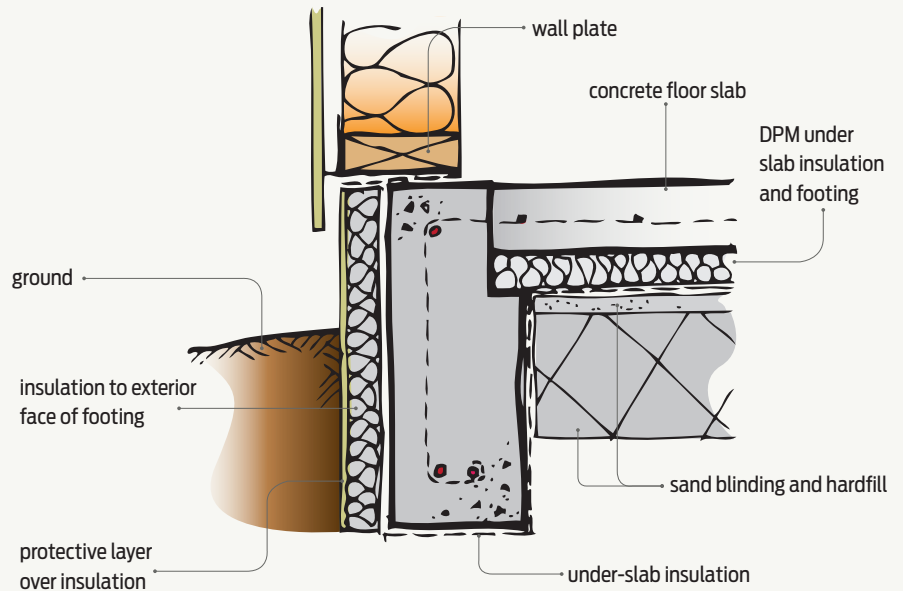

Figure 2 Insulation to exterior face of footing.
- insulation to the exterior face of the footing (see Figure 2).